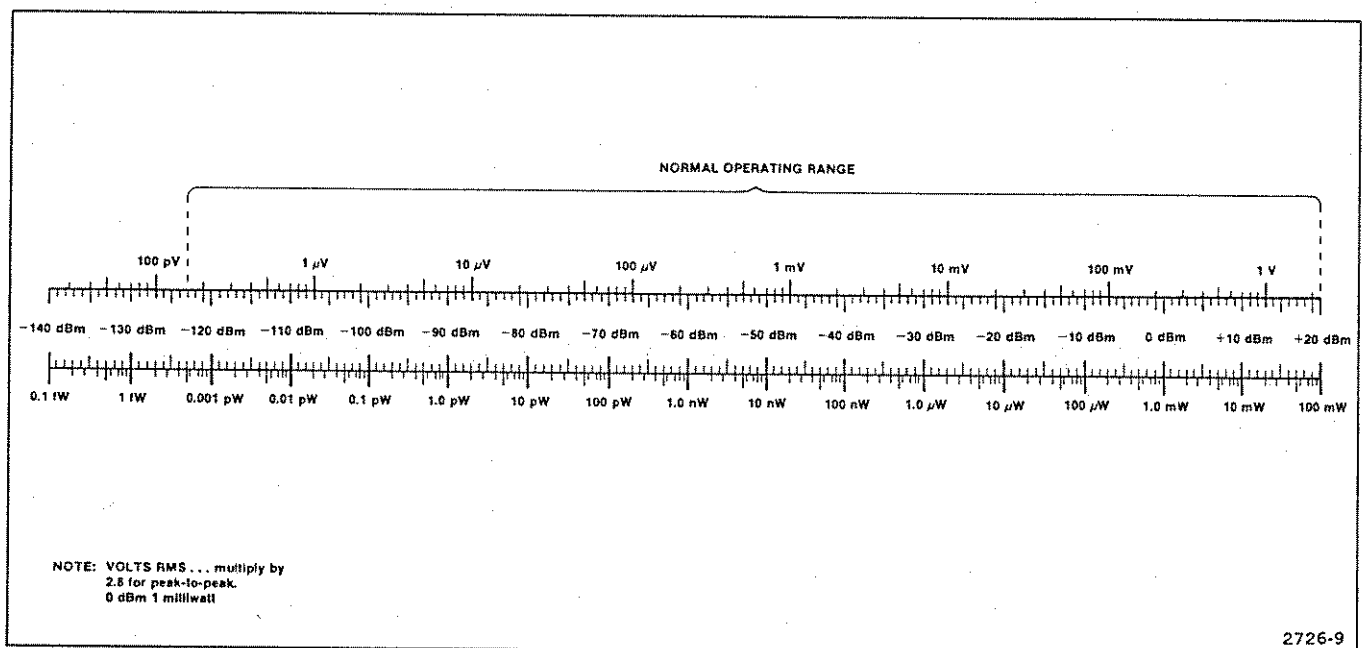

Fig. 3-9. Volts-dBm-watts conversion chart for 50  $\Omega$  impedance.
**Amplitude Conversion.** The 492 reads out signal levels in dBm. A conversion chart shown in Fig. 3-9 provides a way to determine input signal levels from a voltage or power source.